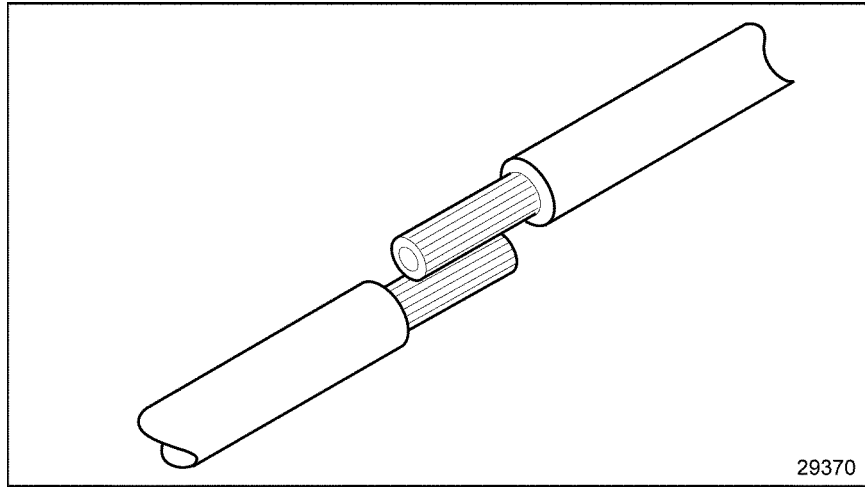

Figure 17-14 **Positioning the Leads**
1. Position the leads, so one overlaps the other. See Figure 17-14.